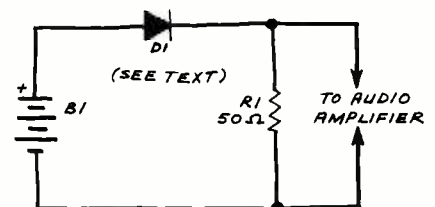

Fig. 2. Simple schematic of basic diode noise generator.
**Diode Noise Generators.** The simplest noise generator is a forward-biased diode. Figure 2 shows a basic diode noise generator that you can quickly assemble. Connect the circuit to an audio amplifier (capacitive coupling might be necessary) and the speaker will produce a continuous rushing or hissing sound.